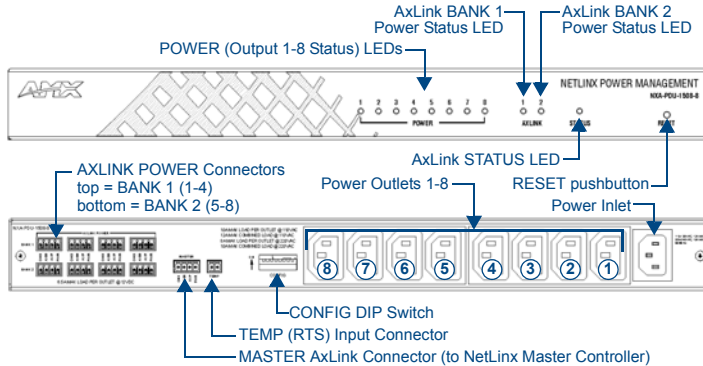

FIG. 1 NXA-PDU-1508-8
The front panel components of the NXA-PDU-1508-8 (see FIG. 1) are described below. See the Specifications table for descriptions of the LEDs on the front panel.
The rear panel components of the NXA-PDU-1508-8 (see FIG. 1) are described below:
- BANK 1 (top) includes AxLink connectors 1-4, numbered from right-to-left (see FIG. 1)
- BANK 2 (bottom) contains AxLink connectors 5-8, numbered from right-to-left (see FIG. 1)
The 3.5mm 4-pin captive-wire AxLink connector labelled "MASTER" provides AxLink connectivity between the PDU and the NetLinx Master (see FIG. 1).
The 3.5mm 2-pin captive-wire connector labelled "TEMP" (see FIG. 1) provides the option to connect a Remote Temperature Sensor (RTS). The NXA-PDU-1508-8 comes with one ENV-VST-TSO Temperature Sensor (FG2050-22).